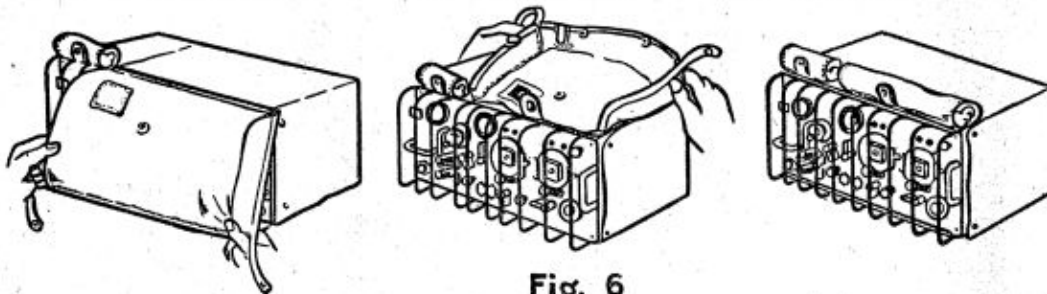

Fig. 6
- (1) Roll up the waterproof cover and stow at top of set. (Fig. 6.)